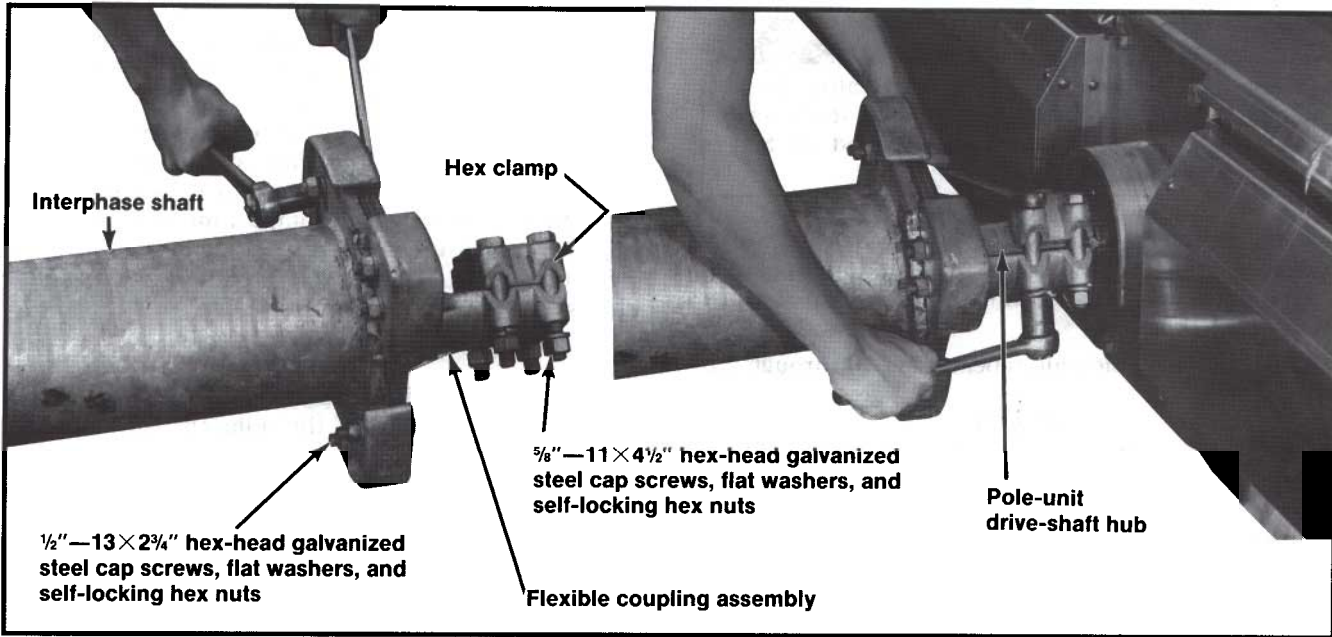

Figure 14. Interphase-shaft coupling detail. 500-kv rating.
- (a) Prepare the interphase shafts for installation by attaching flexible coupling assemblies to both ends of each interphase shaft. See Figure 14. Torque the attachment bolts to final tightness. Then disassemble the hex clamp portions of the flexible coupling assemblies.
against its open stop. Then hoist the interphase shafts into position and interconnect the pole-units by assembling the hex clamps to the drive-shaft hubs. See Figure 14. Torque the clamping bolts to final tightness.